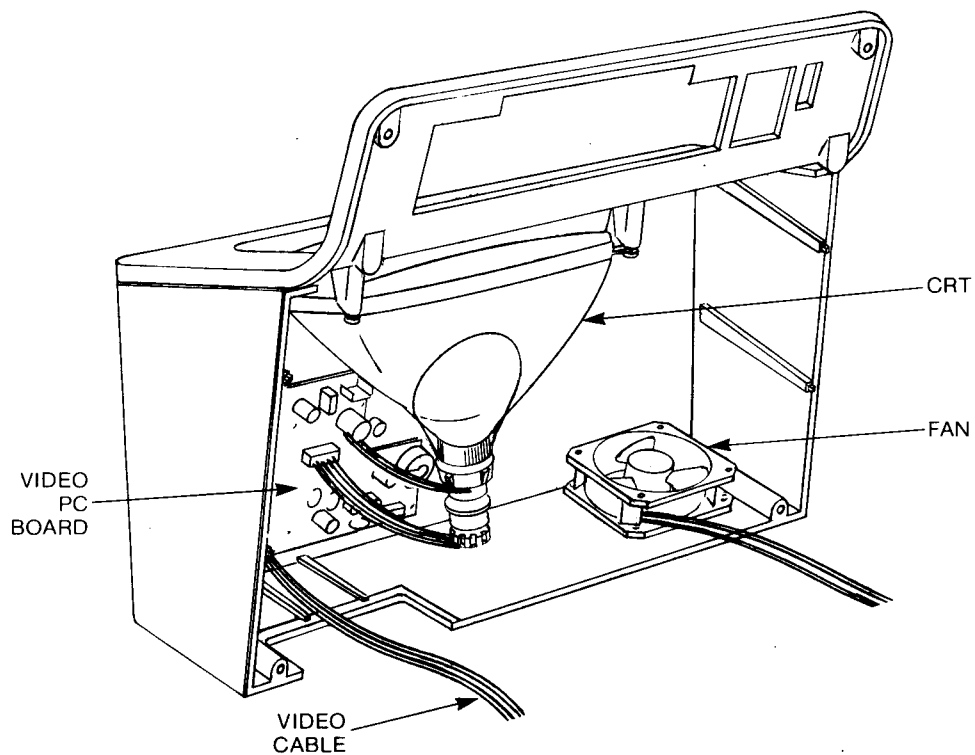

Figure 7-17
- 1) Open the ADVANTAGE cabinet as described in Section 7.3.1. The video components described in this section are shown in Figures 7-17, 7-18 and 7-19.
- 17) Install the video cable (see Figure 7-17 and 7-19). Align pin 1 on the cable connector with pin 1 on the PC board connector and push the cable connector straight down onto the board.